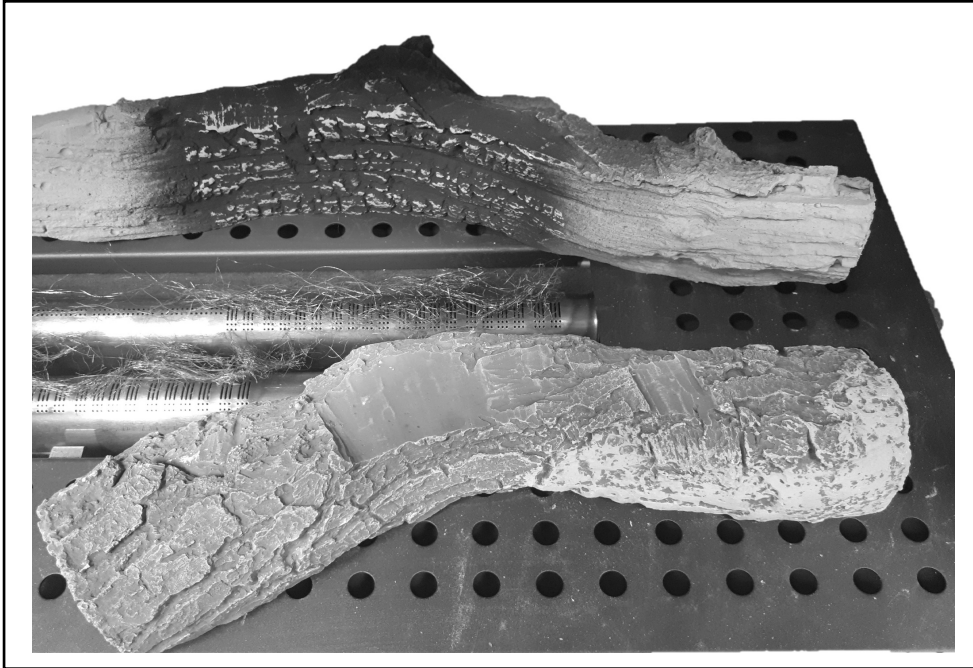

Fig. 3
3. Place Log '3' in position as shown in fig.3. Log 3 has a flat side to rest on the metal tray. The log does position over the front burner front RHS blank end, but only where there are no burner port holes below the log.